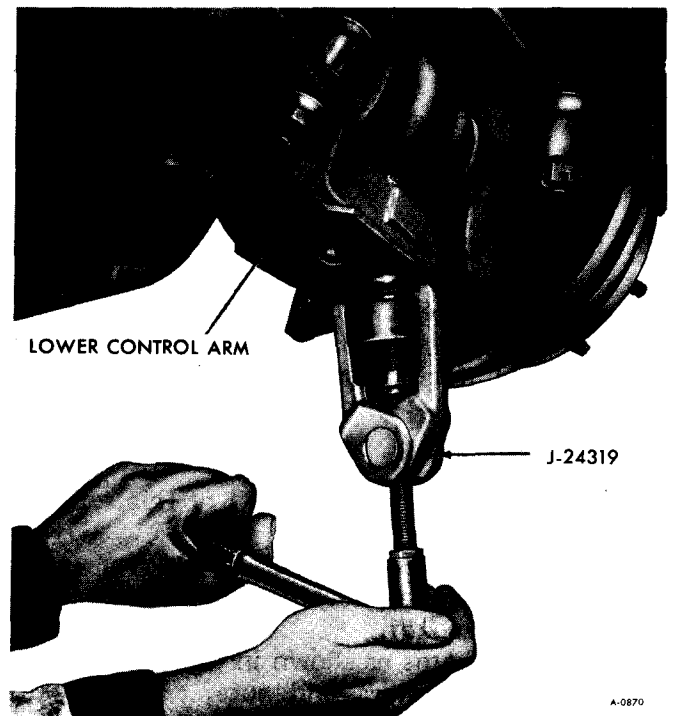

Figure 17—Removing Lower Ball Joint
8. Using Tool J-24319 remove lower (suspension) ball joint from knuckle (figure 17).
9. Install Tool J-24319 and remove ball joint stud from knuckle (figure 17).